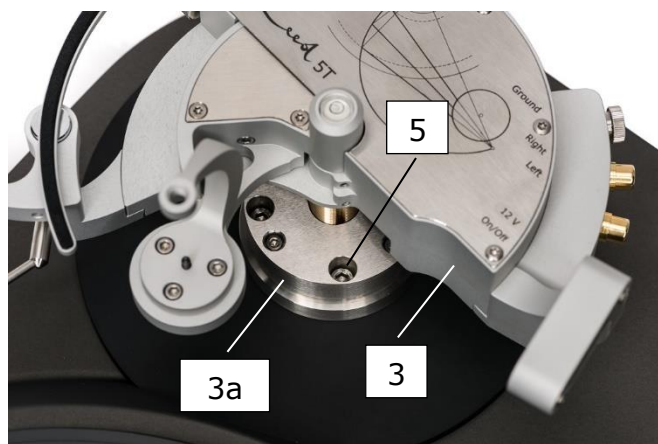

Figure 7
- f) Place the tonearm on a turntable and match all three mounting holes (there is only one matching position). Carefully turn a tonearm base [3a] around its axis to see if mounting holes match. Tonearm body [3] should be freely rotating around tonearm base [3a] as well (Figure 7).